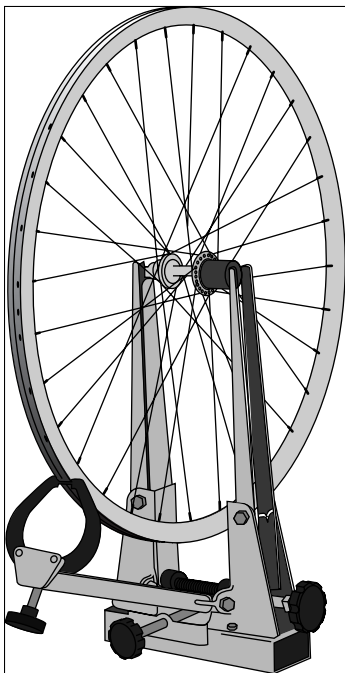

Figure 7-12:
2. Secure the wheel in a truing stand (as shown in Figure 7-12) if you have one; otherwise, you can keep the wheel on the bike.